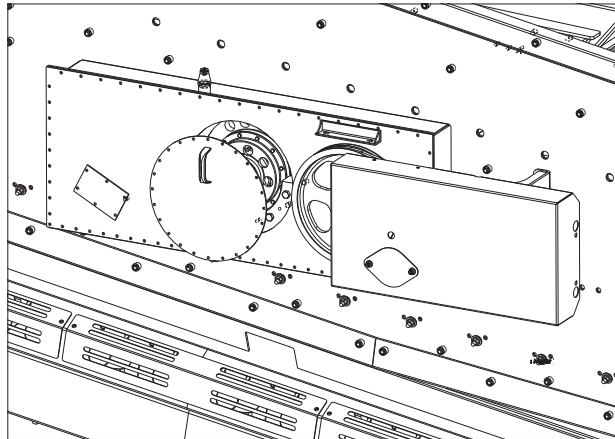

Figure 9.55 - Timing Cover Removed
2. Remove the timing cover to access gear-side centre weight disc, Ref: Figure 9.55.